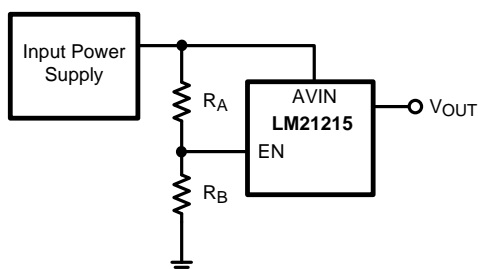

Figure 25. Enable Startup Through V_{IN}
The LM21215 has a built-in undervoltage lockout protection circuit that keeps the device from switching until the input voltage reaches 2.7 V (typical). The UVLO threshold has 200 mV of hysteresis that keeps the device from responding to power-on glitches during start up. If desired the turn-on point of the supply can be changed by using the precision enable pin and a resistor divider network connected to VIN as shown in Figure 25 in the design guide.
The enable (EN) pin of the LM21215 allows the output to be toggled on and off. This pin is a precision analog input. When the voltage exceeds 1.35 V, the controller will try to regulate the output voltage as long as the input voltage has exceeded the UVLO voltage of 2.7 V. There is an internal current source connected to EN so if enable is not used, the device will turn on automatically. If EN is not toggled directly the device can be preprogrammed to turn on at a certain input voltage higher than the UVLO voltage. This can be done with an external resistor divider from AVIN to EN and EN to AGND as shown below in Figure 25.